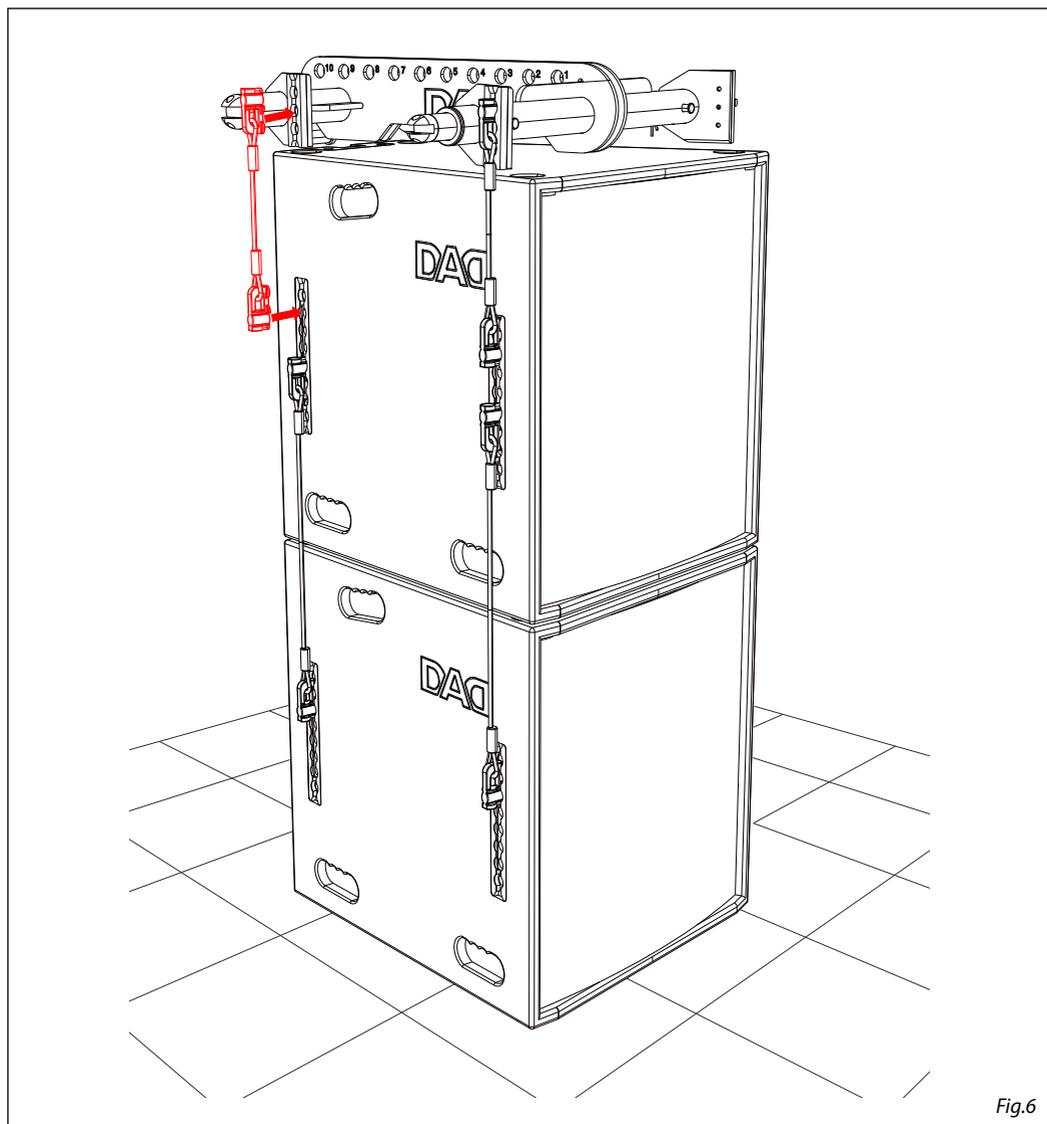

Fig.6
4. Connect the others 3 FLYTRACK2-300 as shown in figure 6. Check that all the hooks are secured and locked.